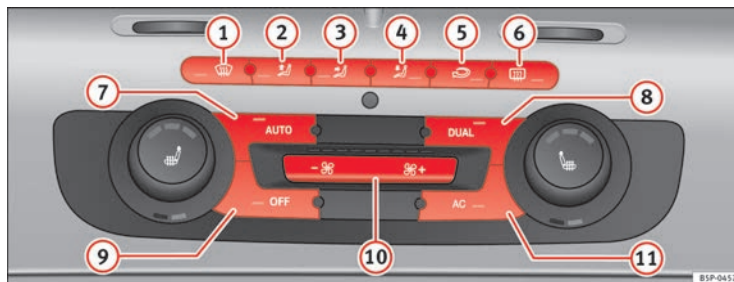

Fig. 129 On the dash panel: 2C Climatronic controls
- Turn the temperature control knobs ⇒ fig. 129 in order to adjust the temperature on the left hand side or the right hand side respectively.
- Press the **AUTO** button ⇒ page 165, fig. 129. “AUTO High” is shown on the radio display (high fan speed).
- Press the **AUTO** button again ⇒ page 165, fig. 129. “AUTO Low” is shown on the radio display (low fan speed).